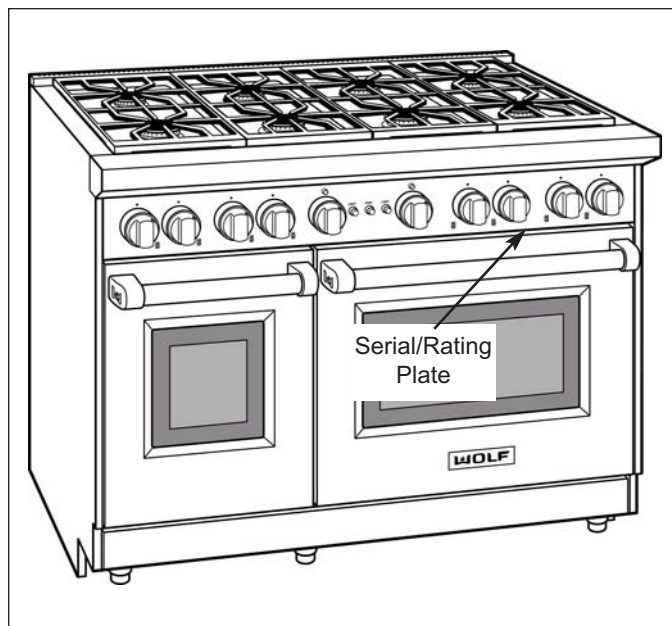

Figure 1-2. The serial plate is located above the door
- See Figures 1-2 for serial plate location, between door and bull nose.